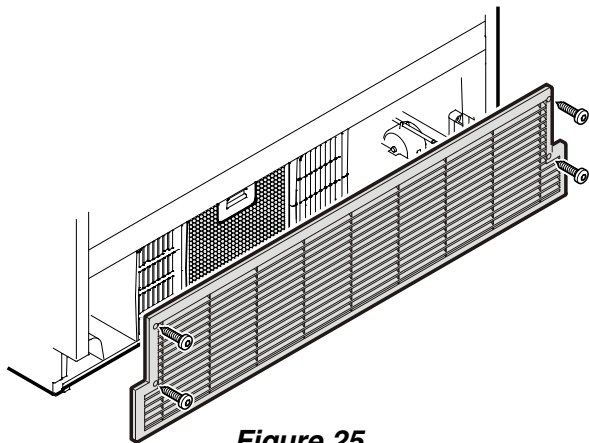

Figure 25
- Open the bottom freezer drawer and unscrew the ventilation grille - **Figure 25**.